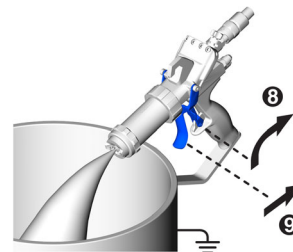

FIG. 21
- Disengage the trigger lock on the gun. See FIG. 21.
- Purge air from resin and catalyst hoses:* with a grounded bucket below the gun, press the gun against the side of the bucket and pull the trigger to dispense. Continue dispensing until air-free fluid is dispensed from both ports on the front of the gun. See FIG. 21. The pump air pressure may need to increase slightly until the material begins to flow.